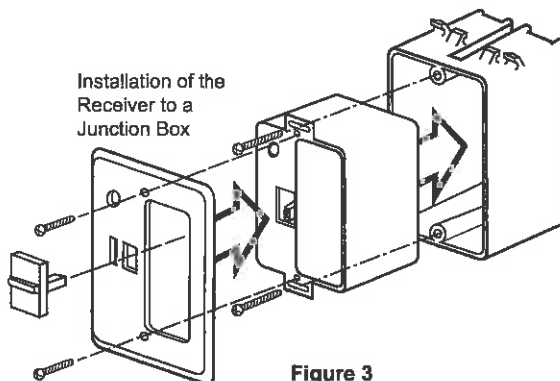

Figure 3
2. Press START/ TIMER to review the left of time in "Count-Down" timer after activated, for example, "-25" means (blinking) the fireplace will run more 25 minutes. (see figure 3)
- Use the screws provided to secure the face Plate to the Remote Receiver. See *Figure 3*.